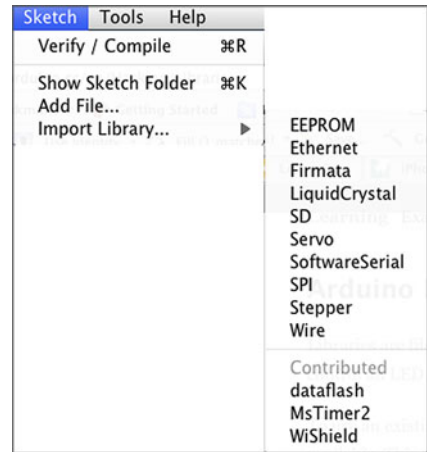

Figure 4.2 The contributed libraries available to a sketch after installation
- 4 Add the library to your sketch by selecting Sketch > Import Library from the menu, as shown in figure 4.2, where a couple of contributed libraries are displayed.